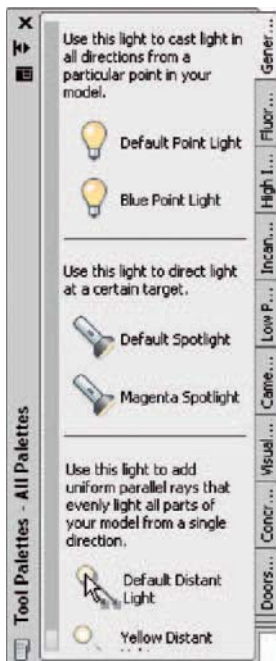

Fig. 15.29 The **Generic Lights** palette showing the **Default Distant Light** selected
5. There are several methods by which **Distant** lights can be called: by selecting **Default Distant Light** from the **Generic Lights** palette (Fig. 15.29), with a *click* the on the **Distant** icon in the **Render/Lights** panel, or by *entering distantlight* at the command line.